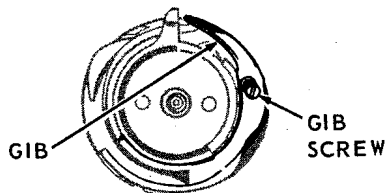

Fig. 38. Removal of Gib Screw and Gib
4. Remove gib screw and gib, Fig. 38, from front of hook.
2. Replace gib and gib screw on front of hook as shown in Fig. 38.